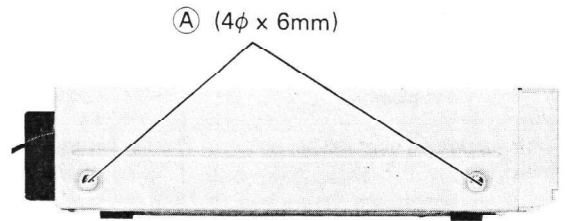

Figure 1
1. Remove four screws (A) ( $4\phi \times 6\text{mm}$ ) and two screws (B) ( $3\phi \times 6\text{mm}$ ), and the top cabinet can be removed from unit. (Figure 1, 2 and 3)